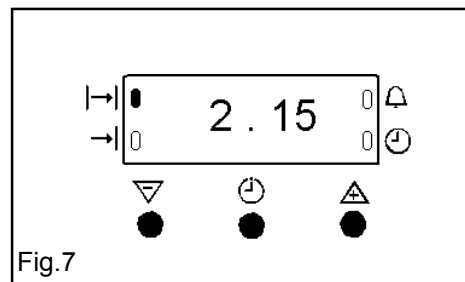

Fig.7
- iii) To set the length of cooking time. Press the Selector Control button until the 'Cook Time' indicator neon is illuminated. Press the increase control (+) until the required length of cooking time is displayed, e.g. 2 hrs 15 mins as Fig. 7. If necessary depress the decrease control (-) until the correct time interval is achieved. The maximum cooking time is 10 hours.